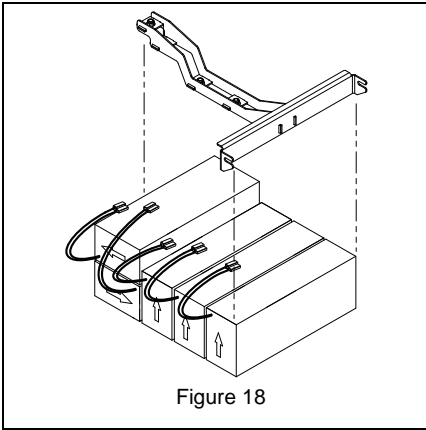

Figure 18
1. Install batteries into battery compartment. Ensure that battery leads are all located on the right side of the unit and that the batteries are oriented as shown (see figure 18).